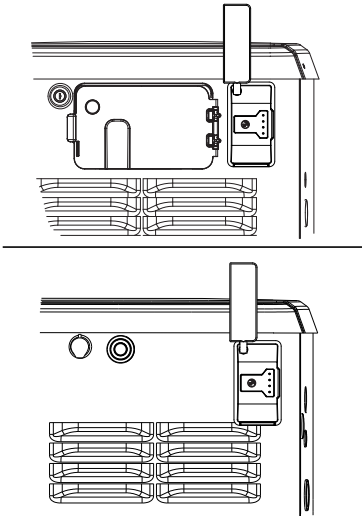

Figure 3-8. Mobile Link Cellular In Place
5. See Figure 3-8. With connector installed, tighten plastic fitting to secure Mobile Link cellular unit against generator wall.